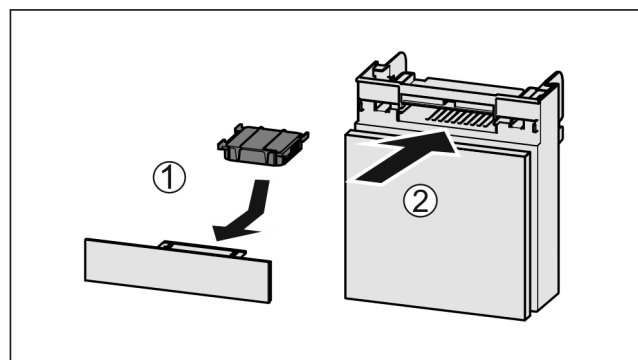

Fig. 51
- ▶ Insert the carbon filter as shown in the diagram Fig. 51 (1).
- ▶ Push the compartment in Fig. 51 (2).